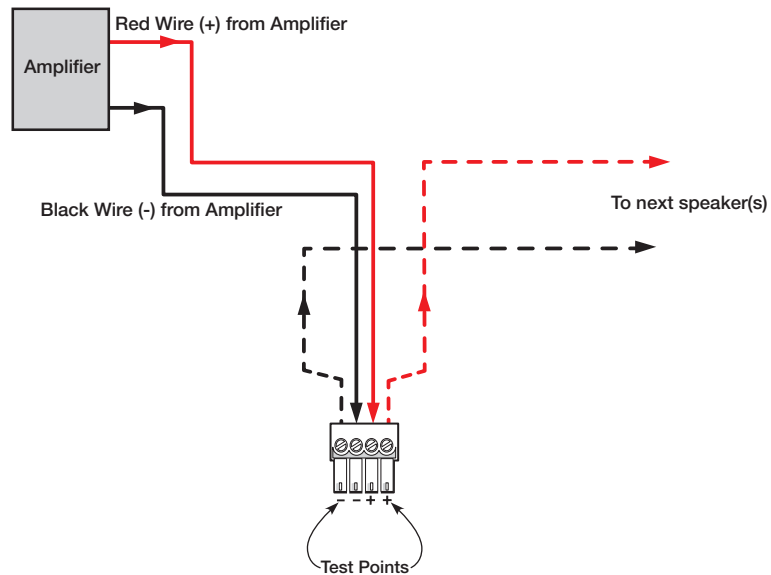

Figure 17. Impedance Test Points – Loop-through Configuration
- The impedance of the speakers downstream of the one being tested can be measured while the system is on by connecting to the outer (LOOP) terminals of the captive screw connector, as shown in figure 17.